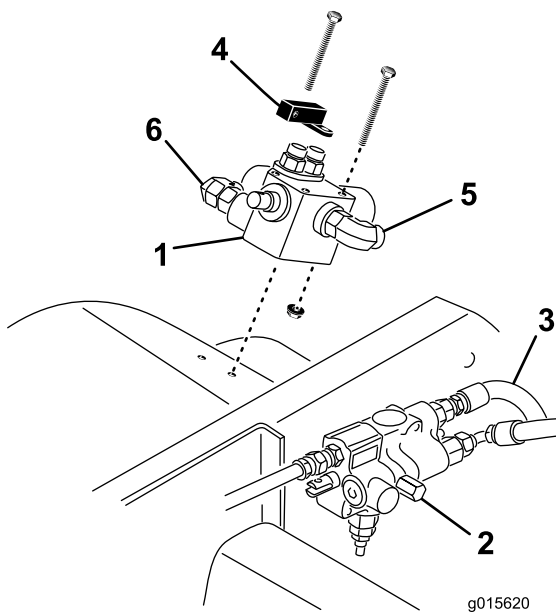

Figure 4
4. Mount the control valve and the pivot lever to the right fender with (3) 1/4 x 2-3/4 inch capscrews and 1/4 flange locknuts as shown in Figure 4.
5. Place a drain pan under the lift valve (Figure 4).
6. Disconnect the steering hose (Figure 4), from the “P” port (upper rear port) of the lift valve (hose comes from the steering valve).
7. Connect the steering hose (from the lift valve “P” port) to the 90 fitting on the operator side of the control valve (Figure 4).
8. Connect the hydraulic hose with a straight fitting and 45 degree fitting (included in the kit) to the “P” port of the lift valve and to the 90 fitting on the outer side of the control valve (Figure 4).